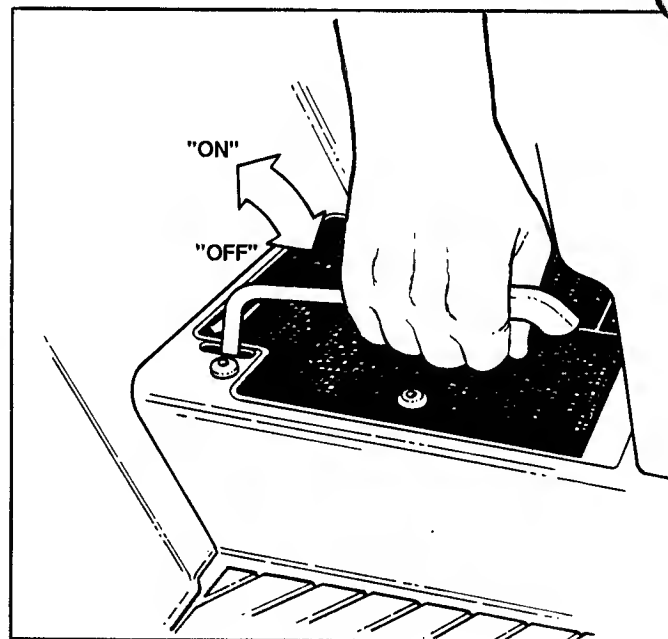

FIGURE 10A
**START MOWER BLADE** by pulling BLADE CONTROL LEVER "UP" to "ON". See Figure 10A.
3. Push BLADE CONTROL LEVER downward to "OFF" position. Refer to Figure 10A.